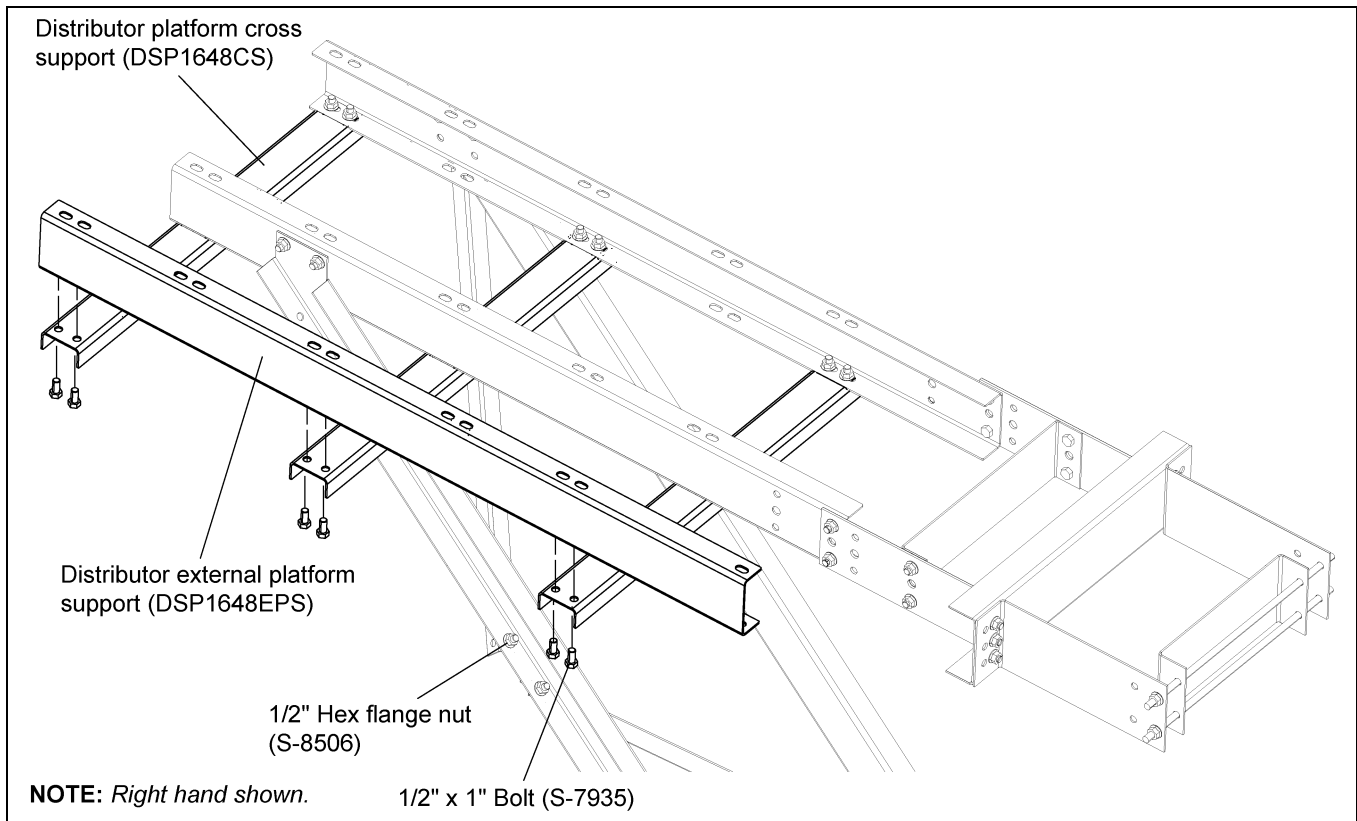

Figure 12G Distributor External Platform Support
3. Assemble the external platform support (DSP1648EPS) to the end of the three (3) cross supports using six (6) 1/2" x 1" bolts and nuts. *(See Figure 12G on Page 109.)*